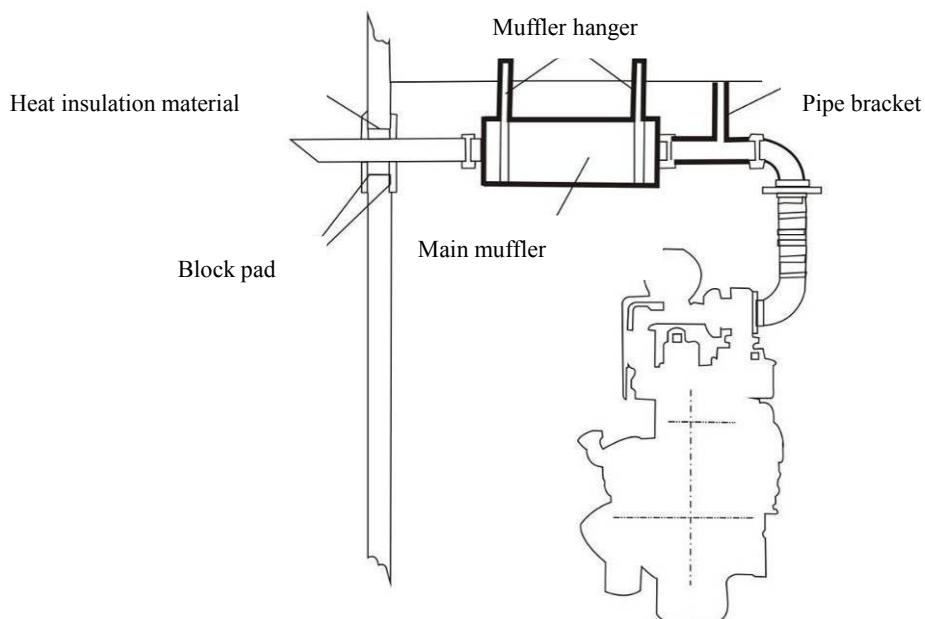

Fig.2-3
- Fig.2-3 shows the typical smoke evacuation installation.